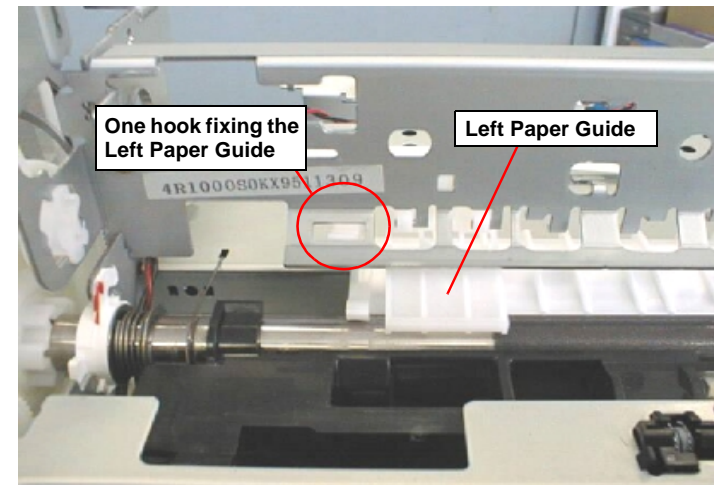

Figure 4-50. Removing the Left Paper Guide
- 8) Remove Left Paper Guide sliding to left side, releasing the one hook from the Top Frame. Refer to Figure 4-50.